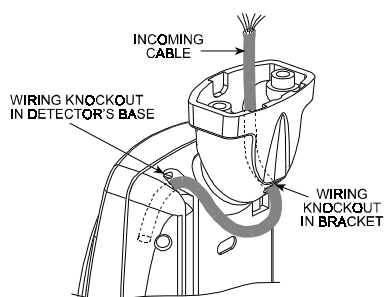

Figure 9. Routing the Cable
- H. Route the cable through the bracket and into the detector as shown in Figure 9.